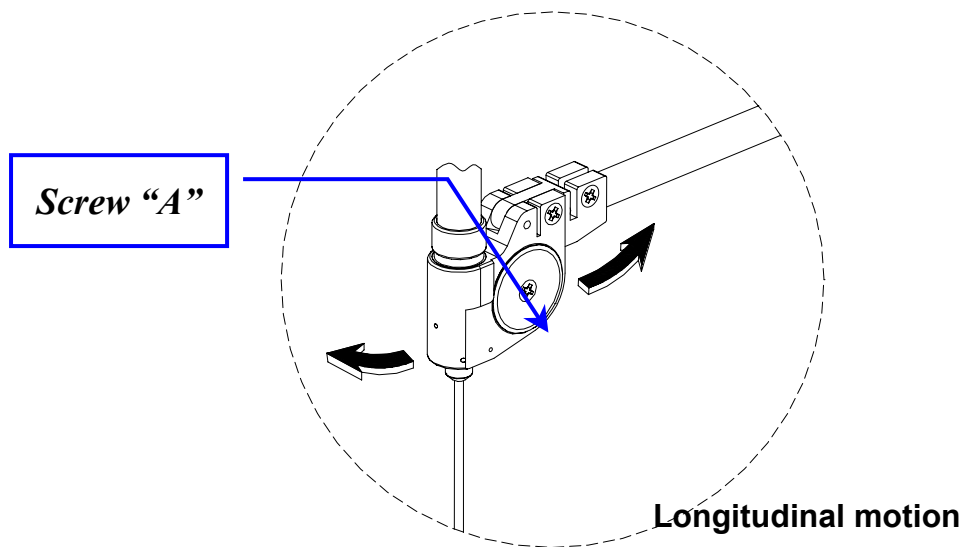

Fig. 3 – Longitudinal motion of the Sampling Arm head
- a. loosen slightly the Screw “A” in order to obtain a longitudinal motion of the Sampling Arm head (Fig. 3) and/or loosen slightly the Screw “B” (or “Preheater Head fastening screw”) in order to obtain a latitudinal motion of the Sampling Arm head (Fig. 4);